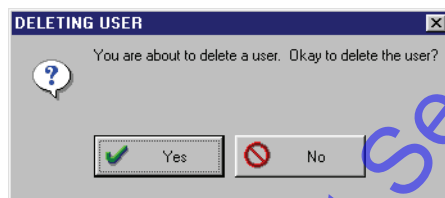

Figure 4-19: Deleting User Confirmation Window
5. Once the user has been voided, click on the  button. A deletion confirmation window appears (see Figure 4-19).